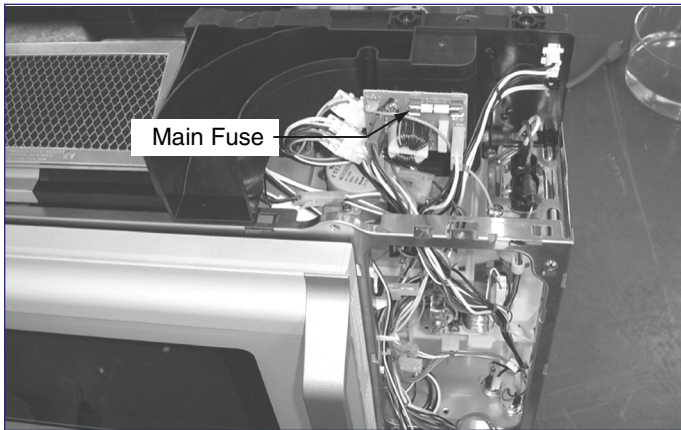

Figure 4-15. Fuse Removal
2. Replace the fuse. (See Figure 4-15)